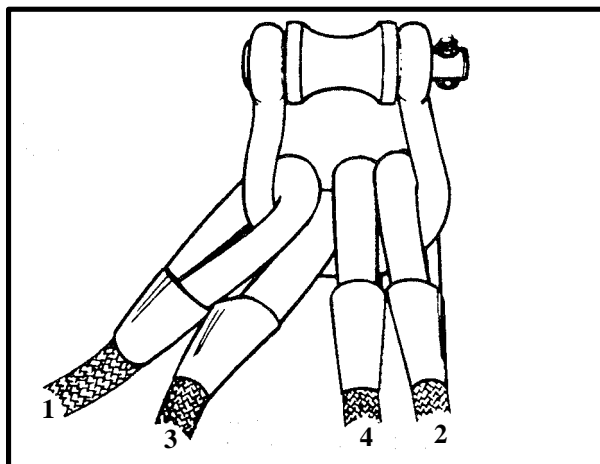

*Figure 6-3. Three-foot Sling, Basket-Hitched on Apex Fitting for UH-1*
(1) The pin on both apex fittings is secured with a 3/8-inch bolt and a castellated nut and cotter pin.
(2) The castellated nut and a cotter pin are a more positive means of securing the bolt since the cotter pin is easily visible. Tighten the nut until the cotter pin can be placed through a castellation in the nut and the hole in the bolt. Spread the ends of the cotter pin apart to keep the nut from loosening.
(3) The apex fitting pin is placed directly onto the cargo hook, except for the UH-1. A 3-foot nylon aerial delivery sling or 10-inch nylon donut must be used between the sling and aircraft hook because of the unique shear pin design on the UH-1 hook. Use a basket hitch to place the 3-foot nylon aerial delivery sling on the apex fitting (Figure 6-3).
(4) All new sling sets are furnished with an improved apex fitting assembly which includes an aluminum spacer. This spacer is required on the 10,000-pound capacity apex fitting when the load is lifted by a UH-60 helicopter. The spacer prevents the apex fitting from working under and raising the spring-loaded keeper. The spacer also centers the apex fitting on any cargo hook and reduces the shock load to the cargo hook caused by